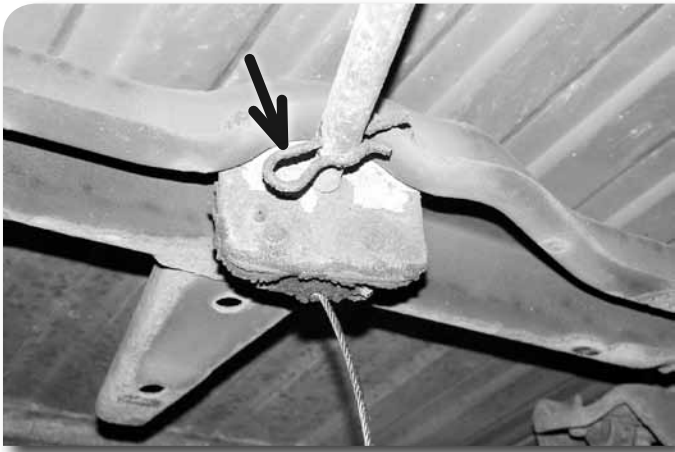

Figure 22
32. Lower the spare tire from under the bed and remove it from the vehicle. Refer to manufacturer's spare tire removal instructions. Remove the crank rod from the spare tire winch by removing the hitch pin clip and sliding the rod off the winch, out of the body and remove from the vehicle **Figure 22**.